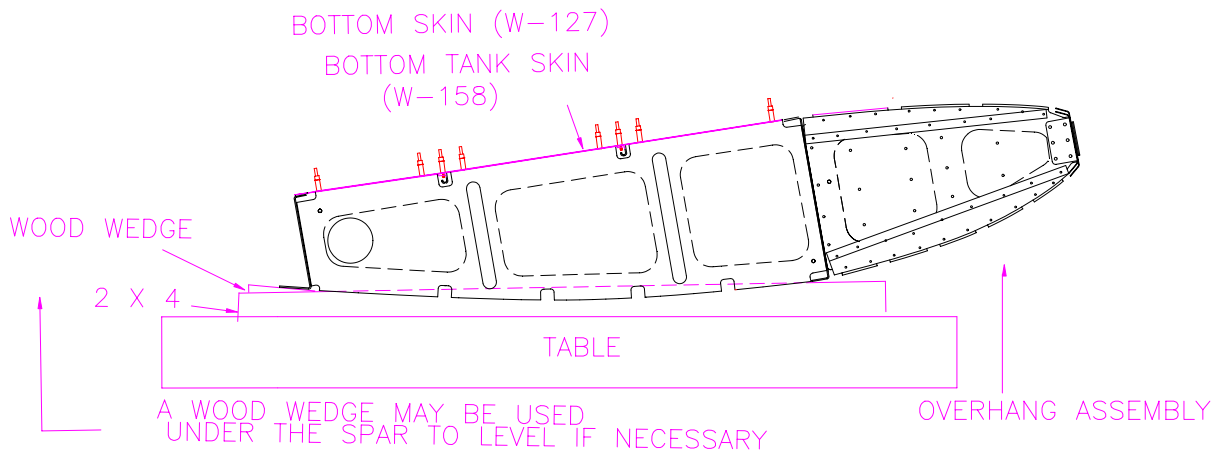

Figure 8.16.2
2) Position the Bottom Skin with Stringers and Bottom Tank Skin (W-158) on the Wing assembly. Use six 3/32” clecos in each rib. Figure 8.16.2.